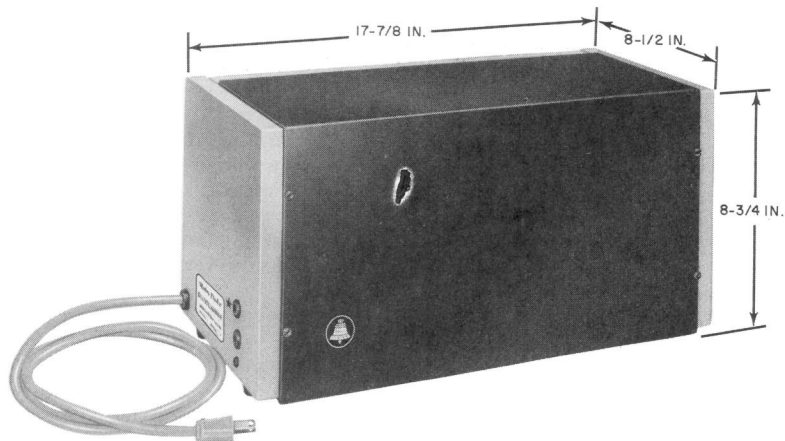
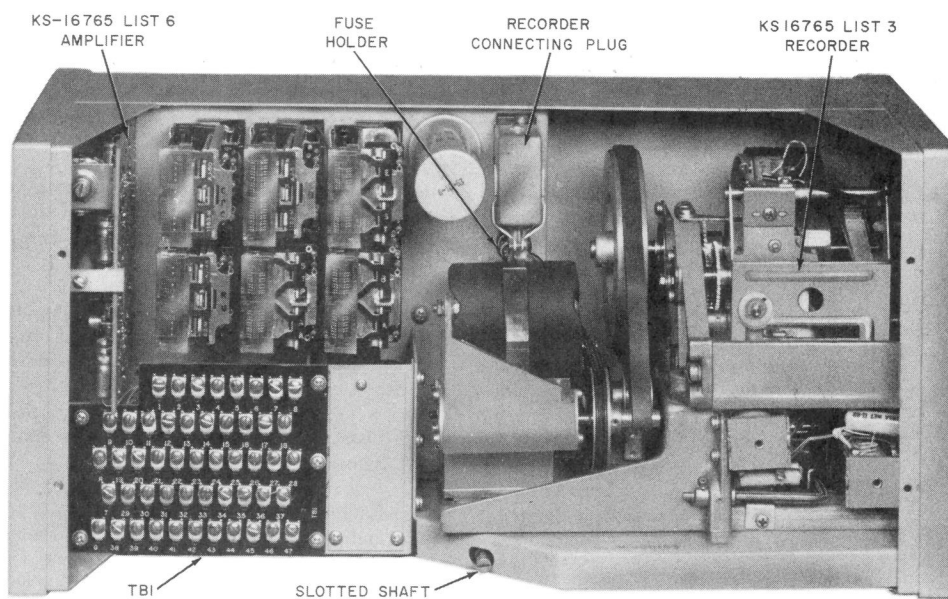

Fig. 1—KS-16765, Lists 1 and 2 Announcement Set Dimensions
Fig. 2—KS-16765, List 1 Announcement Set, Front Cover Removed
2.01 The KS-16765, Lists 1 and 2 announcement sets (Fig. 1) feature:
2.05 Each set weighs approximately 40 pounds and is housed in a metal cabinet that has a removable front and back (Fig. 2, 3, 4, and 5). The cover has a blue gray enamel finish and the chassis has a light olive gray finish. Dimensions are shown in Fig. 1.
2.07 A 1/2-amp fuse is provided in these sets for electrical protection (Fig. 2 and 4).
2.08 The KS-16765, Lists 1 and 2 announcement sets (Fig. 2, 3, 4, and 5) incorporate the following:
- (1) Remove announcement set front cover.
- Loosen four captive screws on front cover (Fig. 1).
- (2) Remove recorder connecting plug from plug-in receptacle.
- (3) Remove List 3 recorder.
- (4) Insert new recorder into cabinet.
- (5) Release bail shipping lock.